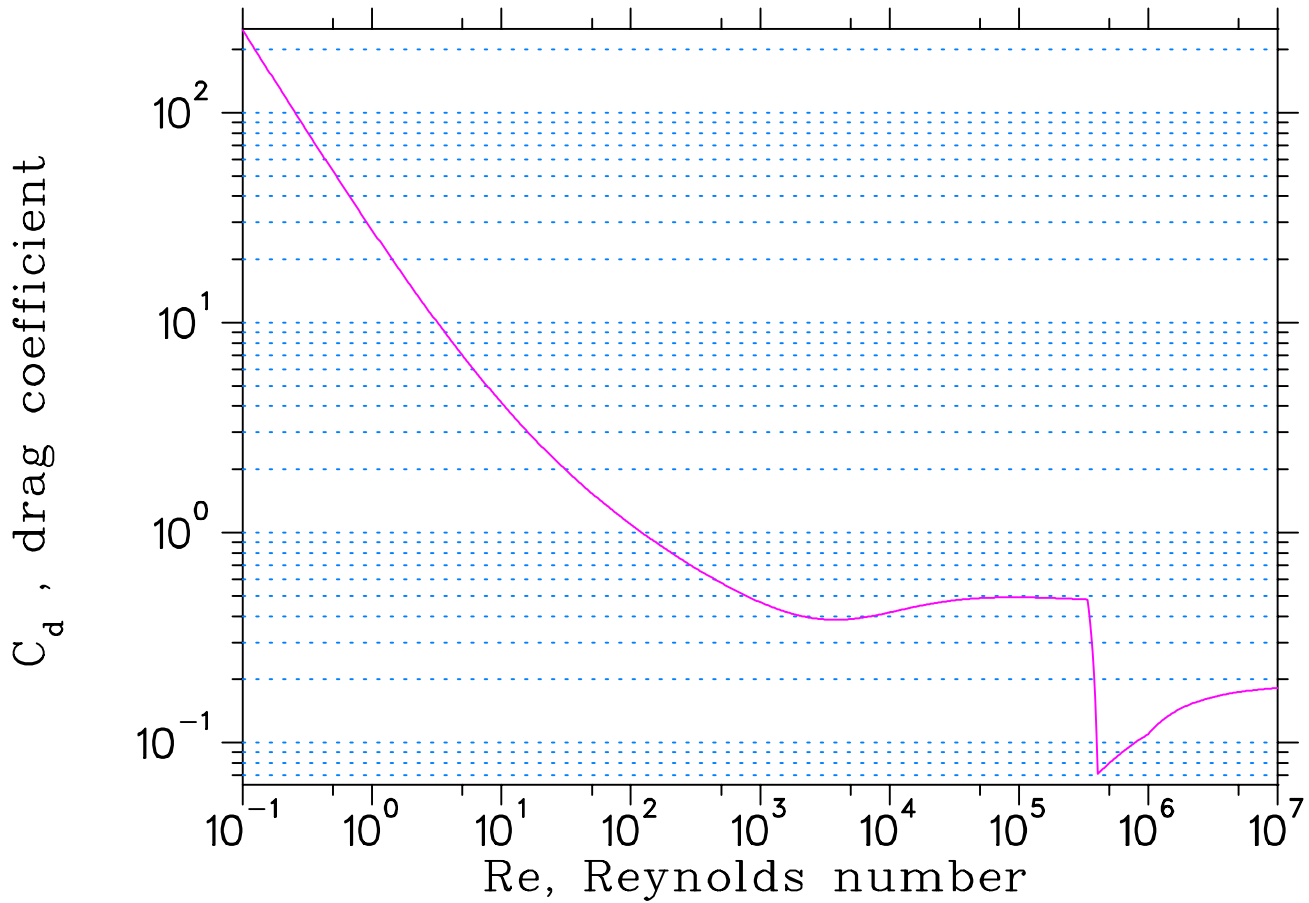

Figure 6.1: Drag coefficient on a sphere in an infinite fluid, as a function of the Reynolds number
A convenient way to express just such a correction is through an empirical factor called “the coefficient of drag”,  $C_d$ , which can be measured experimentally and account for the details of shape, size, and the nature of the media through which an object is traveling. This dimensionless coefficient is well-known and its tabulated values can be found in handbooks. As a function of the Reynolds number, the experimentally measured values of the drag coefficient,  $C_d$ , constitute the so-called “standard drag curve” shown in Fig. 6.1. For a small sphere traveling through an infinitely broad fluid, this  $C_d$  provides an excellent agreement with the experimental drag force:
- Corrected for the finite size of the water pipe ( $K_F$  is different for the two spheres), the drag coefficient you measure should be the same in both cases. Do your two results agree? Compare the averaged  $C_d$  with the standard drag curve of Fig. 6.1 and comment on any discrepancies.